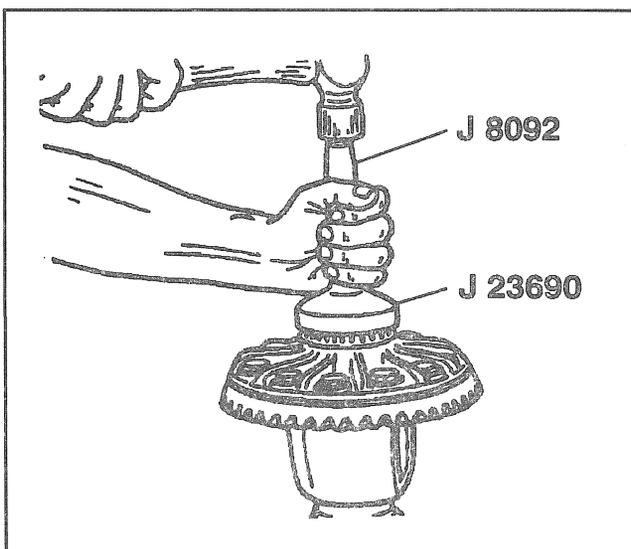

Figure 26—Installing Differential Bearings
- Place the proper shims on the differential side of bearing hub (ring gear side) and drive the differential bearing onto the hub using J 8092 and J 23690 (Figure 26).